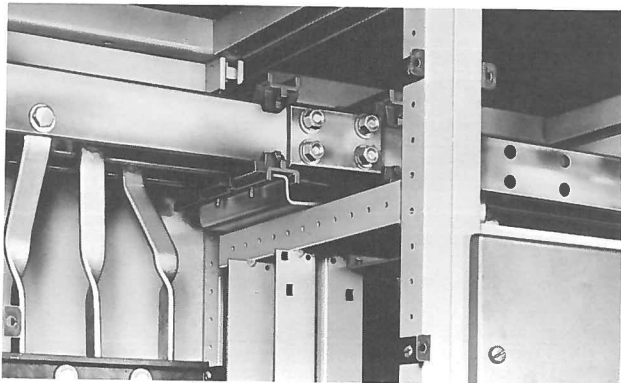

Fig. 3 *Horizontal and Vertical Bus*
Each control center contains a main horizontal bus (min. capacity 600 A.) which runs the entire length of the control center. Vertical busses with a minimum rating of 300 A. are connected to the horizontal bus to feed vertical compartments housing unit assemblies. Both the vertical and horizontal bus are held rigidly within the structure by bus supports which have high dielectric qualities (Figure 3).
4. Bolt top frames together using (2) 3/8 - 16 through bolts, nuts, and washers.
5. Using "U" type frame clamps provided, clamp adjacent front and adjacent rear upright members together near the bottom and near the vertical center of the frames. Each clamp should be secured with (4) .190 - 32 pan head thread cutting screws. (It may be necessary to remove one or two drawout units for easier installation of clamps. Refer to paragraph "Unit Removal".)
6. Bolt splicers to the bus ends with 3/8 - 16 - 1-1/8" long bolts with wide washers and nuts (Figure 3). These bolts should be torqued to 20 ft. lbs. to assure adequate electrical contact pressure.